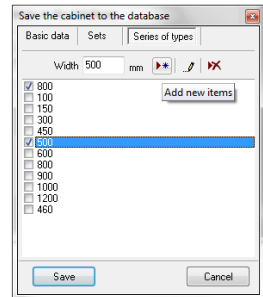

Fig. 197 – choosing the series of types
- in the **Series of types** tab (Fig. 197) you can assign the cabinet to selected groups in regards to the width, in which it will be available;